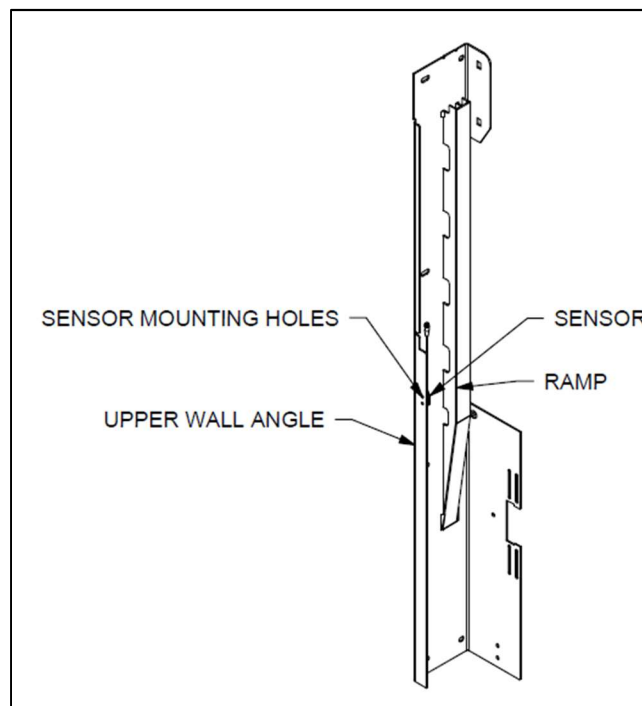

Figure 3 - RIGHT HAND UPPER WALL ANGLE ASSEMBLY
10. Locate the right-hand upper wall angle assembly, see **Figure 3**.